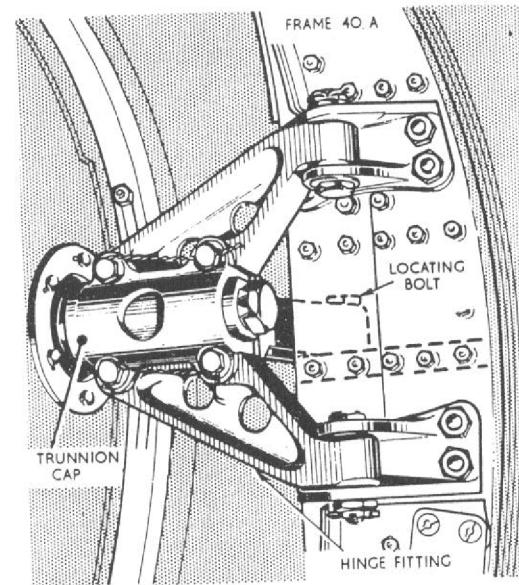

Fig. 16. Rear Engine Mounting
(11) Lower the trolley on to its wheels, roll it forward, and jack it again, so that the centre rail web boss engages with the engine rail lug on the aircraft. Align the engine rear roller rails with the engine rear rollers, ensuring that the trolley is level fore and aft. Lock the trolley to frame 40A by inserting the split bolt in the engine rail lug. Unlock and remove the four bolts securing the engine mounting trunnion caps. Remove the trunnion caps and the locating nuts and bolts (fig. 16), enabling the hinge fittings to swing clear as the engine is withdrawn.